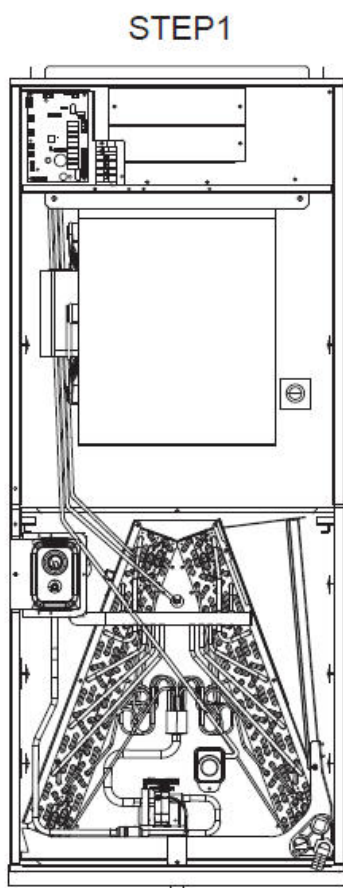

Figure 4.1
1. Remove the screws and the front panel, and disconnect the plug of T2 sensor and leak detection sensor wire from the circuit board (Figure 4.1, Step 1).